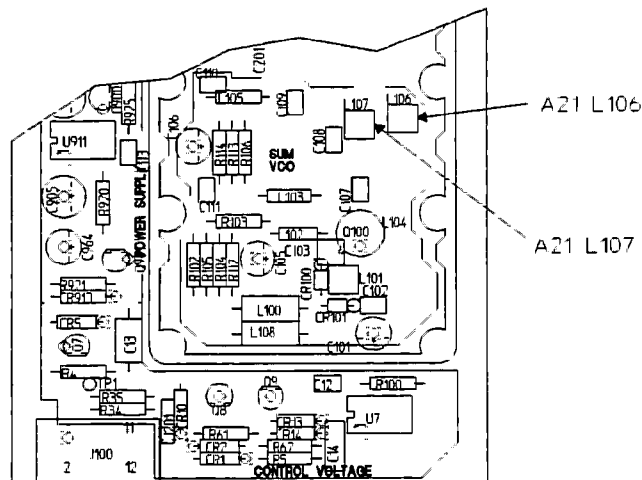

Figure 5-5. A21 Sum VCO Component Locator
6. Through the holes in the shield can, alternately adjust A21 L106 and L107 (see figure 5-5) for a flatness (maximum amplitude minus minimum amplitude) of less than 3 dB(p-p). During this adjustment, periodically clear the spectrum analyzer's maximum hold function.